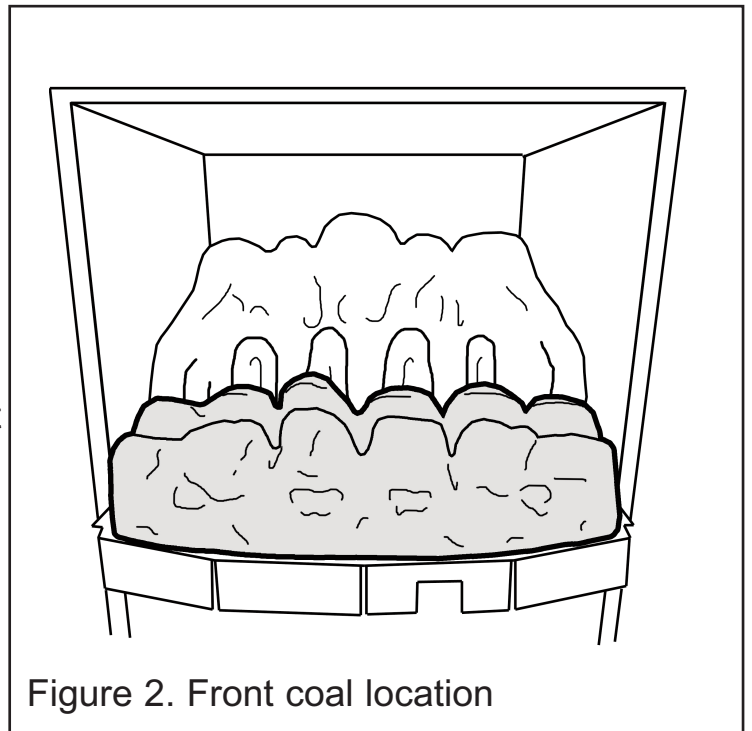

Figure 2. Front coal location
2. Ensure that the burner tray trim is fitted correctly and pushed fully down into position. Place ceramic front coal in position in front of the base coal. The underside of the front coal should locate in the recess below the burner tray trim (See figure 2).